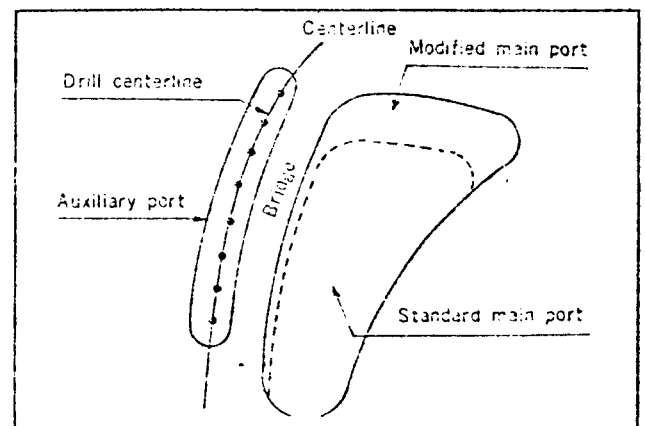

Fig. 2-10 Punch the Auxiliary Port Center Marks
(6) Turn the jig over and mark lines for the auxiliary port centerline and drill centerline.
(7) Punch the auxiliary port center mark. (See Fig. 2-10)